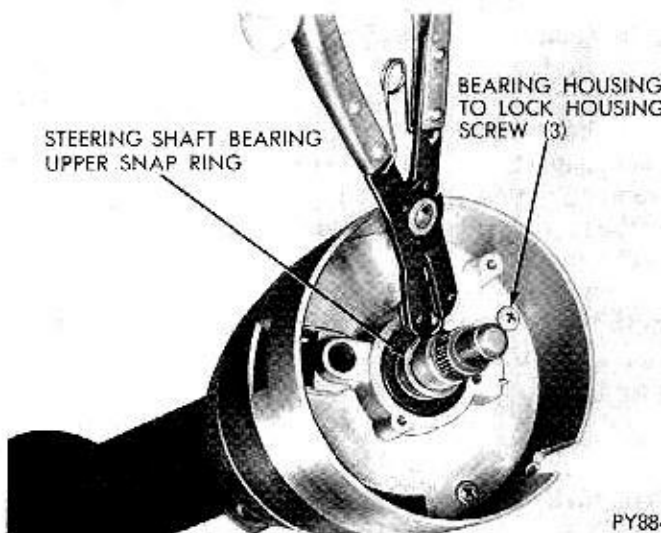

Fig. 5—Steering Shaft Bearing Upper Snap Ring
(7) Remove snap ring from upper end of steering shaft (Fig. 5).